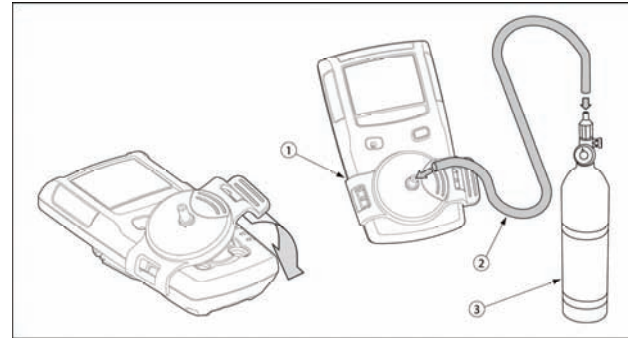

Figure 3. Applying Gas to the Sensors
The calibration cap and hose, which is shipped with the detector, simplifies sensor testing and calibration. Figure 3 and Table 10 show how to use it when applying gas to the sensors.
- The  flashes and **AUTO-SPAN** remains displayed as you attach the calibration cap and apply gas to the sensors at a flow rate of 250 to 500 ml/min. (refer to Figure 3. Applying Gas to the Sensors).